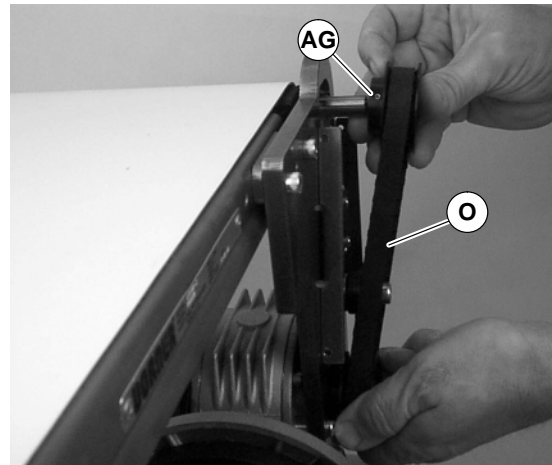

Figure 17
3. Remove timing belt (O of Figure 17).
NOTE: If timing belt does not slide over pulley flange, loosen driven pulley set screws (AG of Figure 17) and remove pulley with belt (O). For re-installation, see steps 9 and 10 on page 7.